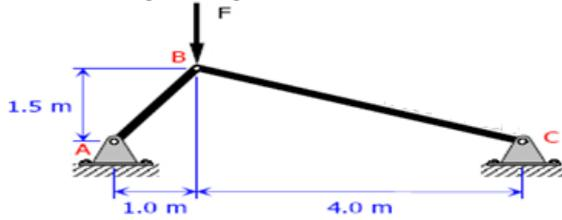

Figure P-017
- b) If the force F shown in Fig. P-017 is resolved into components parallel to the bars AB and BC, the magnitude of the component parallel to bar BC is 4 kN. What are the magnitudes of F and its component parallel to AB?